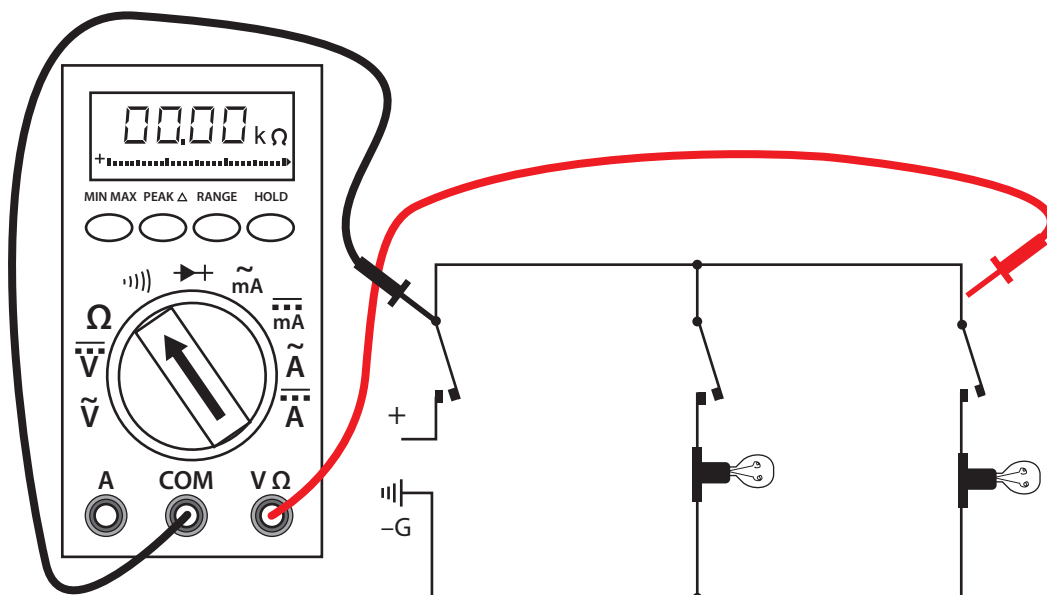

Figure 5 — Wiring for a continuity test
- Connect the test lead and probes on the load terminals as shown (Figure 5). The audible alarm will indicate continuity without a need for taking your eyes off the work.